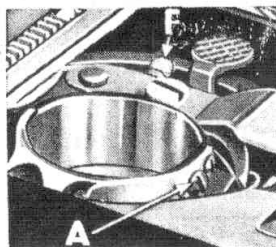

Fig. 13
Tension on bobbin thread is regulated by screw A, Fig. 13, nearest center of tension spring. Turn screw A over to right to increase tension; turn screw to left to decrease tension.
- Apply a few drops of oil to the felt pad **F**, **Fig. 13**.